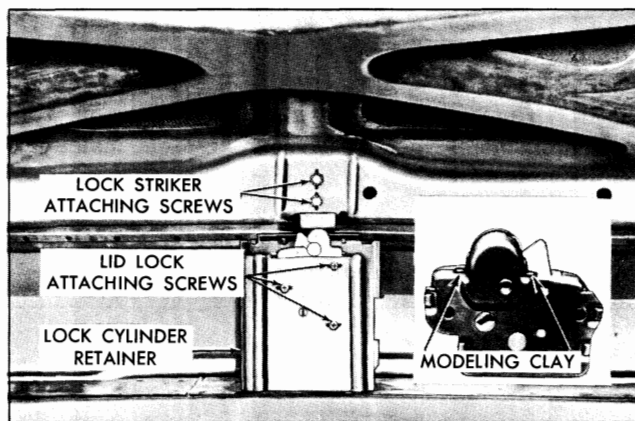

Fig. 5-5 Lid Lock Striker
3. Remove lock attaching screws (Fig. 5-5) and remove lock from body.
2. Remove striker attaching screws (Fig. 5-5) and remove striker from lid.
1. Insert a small quantity of modeling clay on frame of lock at both sides of the lock bolt (Fig. 5-5). Close lid with moderate force.